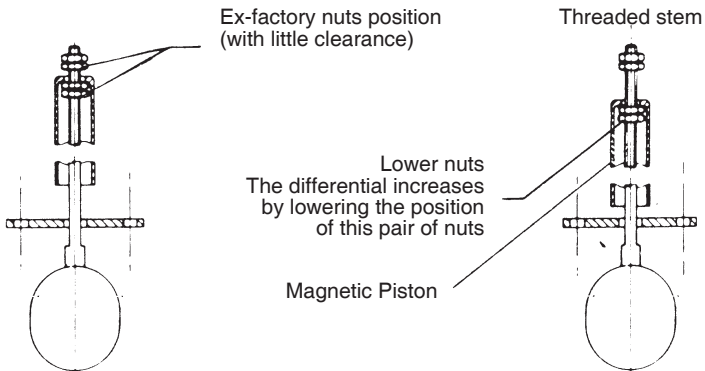

Fig. 5
- 2 - Disassemble the non-magnetic pocket and the housing working on the 41 mm hexagon underneath the base for a direct access to the magnetic piston and to the relevant locking nuts (fig.5).